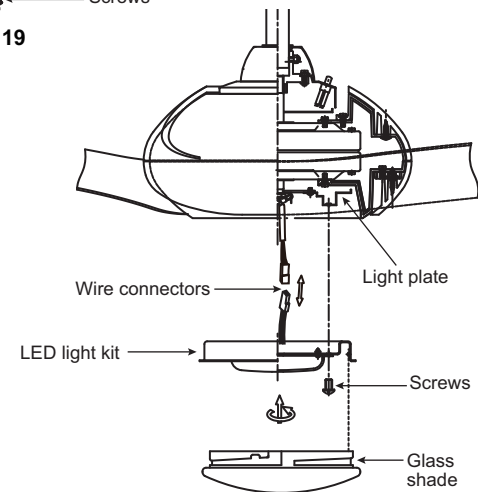

Fig. 20
Step 1. Loosen the three mounting screws on the inside of the LED light kit. (Fig. 20)
Step 2. While holding the LED light kit under the fan motor, make the wire connections: (Fig. 20)
Step 3. Tuck the connections neatly into the light plate. Place the key holes on the LED light kit over the 2 screws previously loosened from the light plate, turn the LED light kit until it locks in place at the narrow section of the key holes. Secure by tightening all three screws. (Fig. 20)
Step 4. Raise the glass shade against the light kit and turn clockwise until snug, DO NOT OVERTIGHTEN. (Fig. 20)